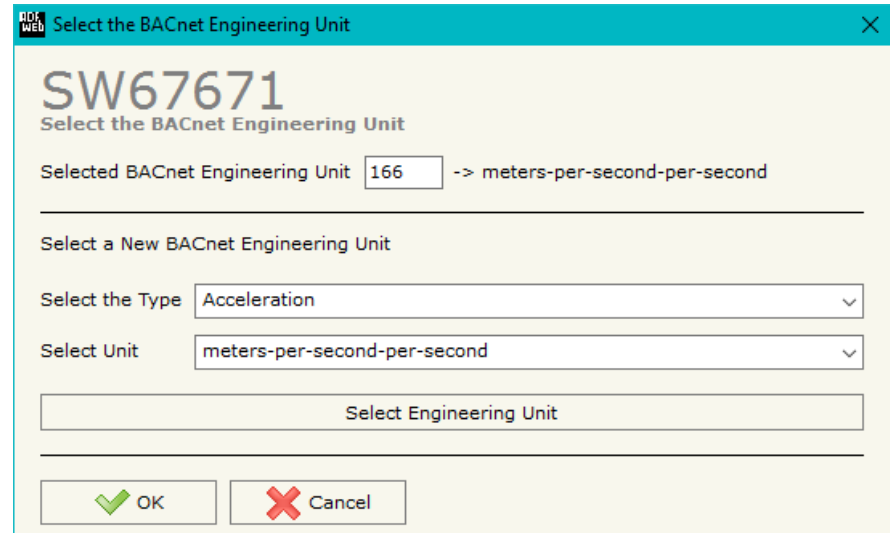

Figure 6: “Select the BACnet Engineering Unit” window
- In the field **“Eng. Unit”**, with double click the window **“Select the BACnet Engineering Unit”** appears (Fig. 6);